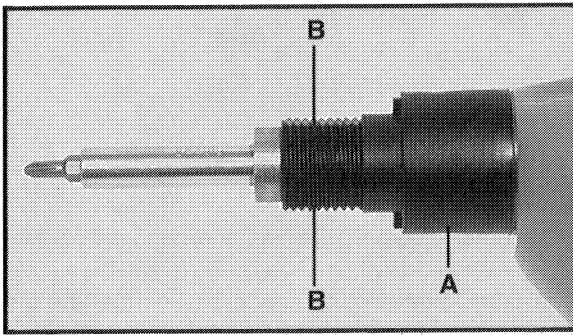

Fig. 6
Periodically, depending on use, screwdriver clutch jaws should be inspected for wear. This may be done by removing the screwdriver mechanism housing (A), Fig. 6, from the power unit.
NOTES: The clutch housing is attached to the power unit with **left-hand** threads. The depth stop assembly may be removed from the clutch housing to expose a set of wrenching "flats" (B), Fig. 6, on the clutch housing. These "flats" permit the use of a wrench to aid in clutch housing removal.